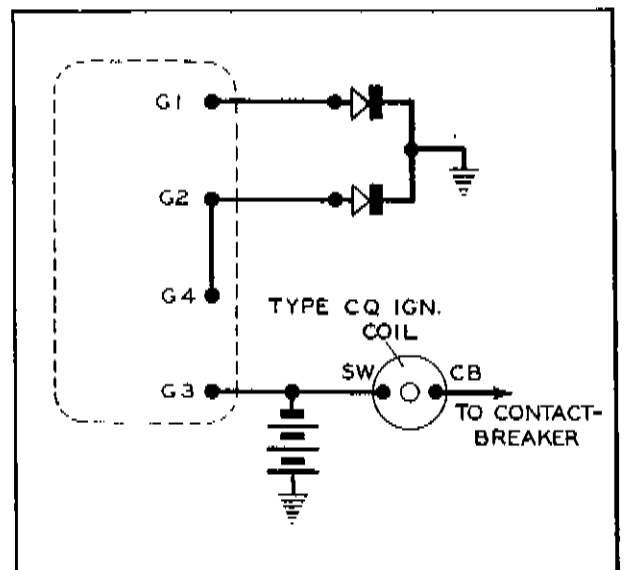

Fig. 6 (a).
(1) **High Speed Test.** Connect the plug cable to an 8 kV rotary gap (see Section C8, Fig. 2) and turn the ignition switch to IGN., i.e. with coil terminal SW, and battery negative, connected to G3, see Fig. 6 (a). Regular sparking should occur up to 5000 r.p.m.